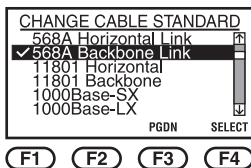

Figure 5-16. Library of cable test standards.
- Highlight the desired cable test standard (see Figure 5-16).